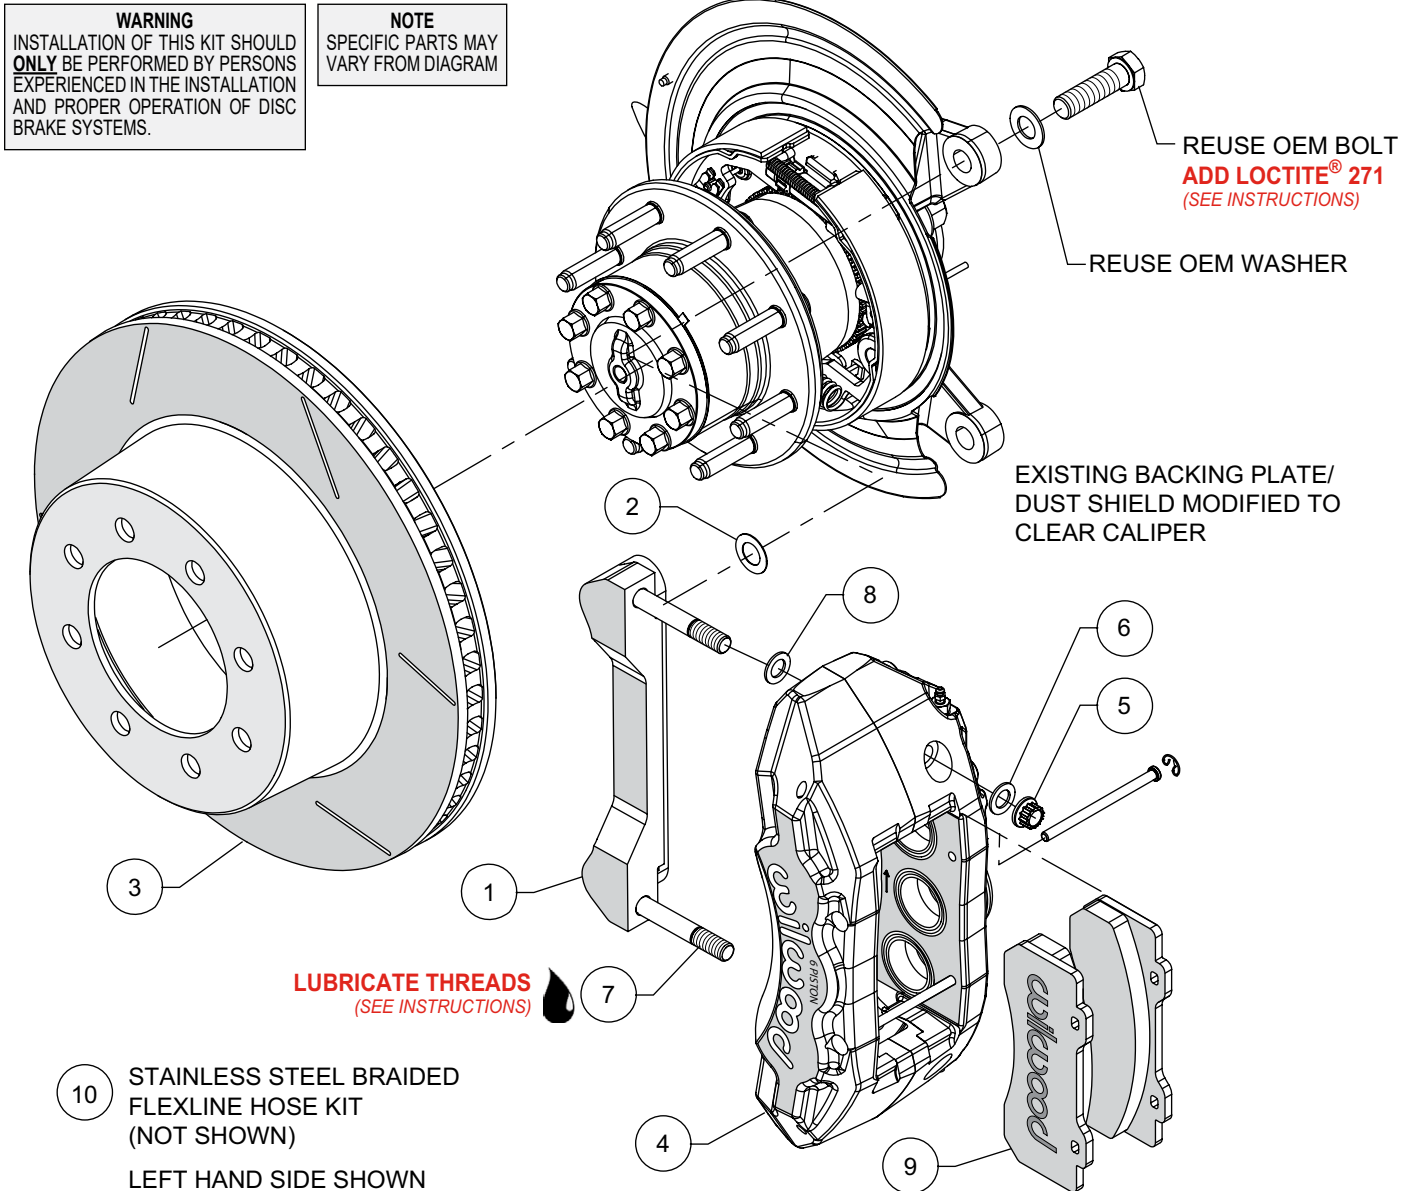

Figure 1. Typical Installation Configuration
NOTE: Numbers in parenthesis refer to the parts list and Figure 1 on the preceding pages.
- The caliper mount bracket (1) should initially be installed with clean, dry threads on the mounting bolts. Orient the bracket as shown in Figure 1 and Photo 1, and install using saved OEM bolts and washers. Initially place one .024 thick shim (2) on each bolt between the bracket and upright, Figure 1. Temporarily tighten the mounting bolts. **NOTE:** The bracket must fit squarely against the mount bosses on the upright. Inspect for interference from casting irregularities, machining ridges, burrs, etc. Later, after the caliper alignment has been checked, the mount bolts will be secured using red *Loctite*® 271.
- NOTE:** This kit contains distinct right and left hand calipers that must be mounted in a specific direction, as described below. Lubricate the caliper mounting studs (7) with lightweight oil. Initially place one .032" thick shim (8) on each stud as shown in Figure 1 and Photo 2. Mount the caliper (4) onto the bracket (1) using lock nuts (5) and washers (6), Figure 1. Ensure that the caliper is mounted so that the largest pistons are at the rotor exit end of the caliper, in relation to the direction of rotor rotation. Temporarily tighten the lock nuts and view the rotor through the top opening of the caliper. The rotor should be centered in the caliper, Photo 3. If not, adjust by adding or subtracting shims (2) between the bracket and the upright. Always use the same amount of shims on each of the two mounting bolts. Once the caliper alignment is correct, remove the bracket mounting bolts one at a time, apply red *Loctite*® 271 to the threads, and torque to manufacturer's specification.